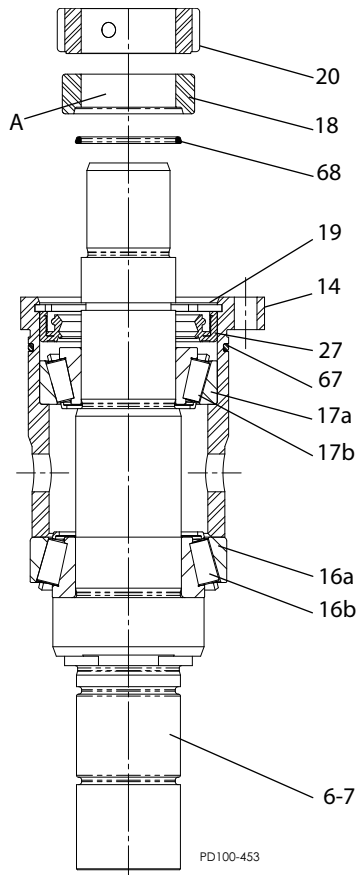

Figure 47 - Bearing Assembly
3. Install the front bearing cup (Figure 47, item 16a) onto the mounted cone (item 16b), followed by the bearing case (item 14).
4. Press the rear bearing cone (item 17b) onto the shaft and into the cone.
5. Press the rear seal (item 27) into the bearing case (item 14) with the primary lip facing away from the bearing, and install the retaining ring (item 19). Orient the seal as shown and make sure it does not interfere with the bearing.
6. Install the o-ring (item 68) and seal sleeve (item 18) onto the shaft as shown in Figure 47. Orient the seal sleeve with the groove toward the bearing.
7. Install the bearing adjustment nut (item 20) and tighten "hand tight." Do not tighten the locking setscrews at this time.
8. Install the o-ring (item 67) into the groove of the bearing case (item 14).